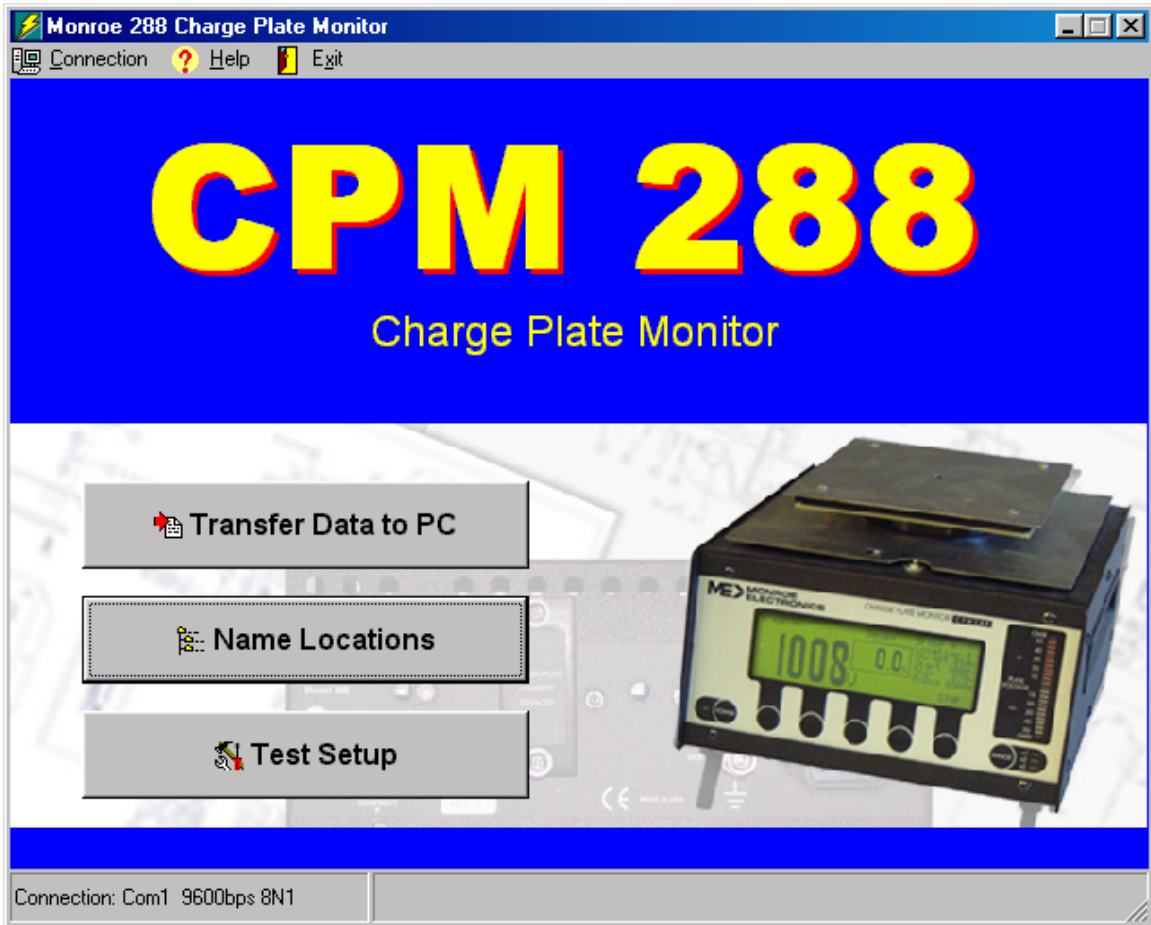

Figure 1
5. The display will look like Figure 1.
8. Then click the “Save and Exit” button on the toolbar. You may be prompted to supply a file name for that configuration. After saving the file, you will return to the main screen, figure 1.
the 288 accessory kit. Connect this cable to the back of the 288 and to the desired serial port on the rear of the PC. From the main screen (see figure 1), click on the “Connection” button and select the correct serial port for communication to the 288. Now click the “Transfer Data to PC” button to load the 288 test data with the test location and test condition data. You will be prompted for a file name, type and location for the data. The file can then be opened with either a word processor or spreadsheet application depending on the file type.